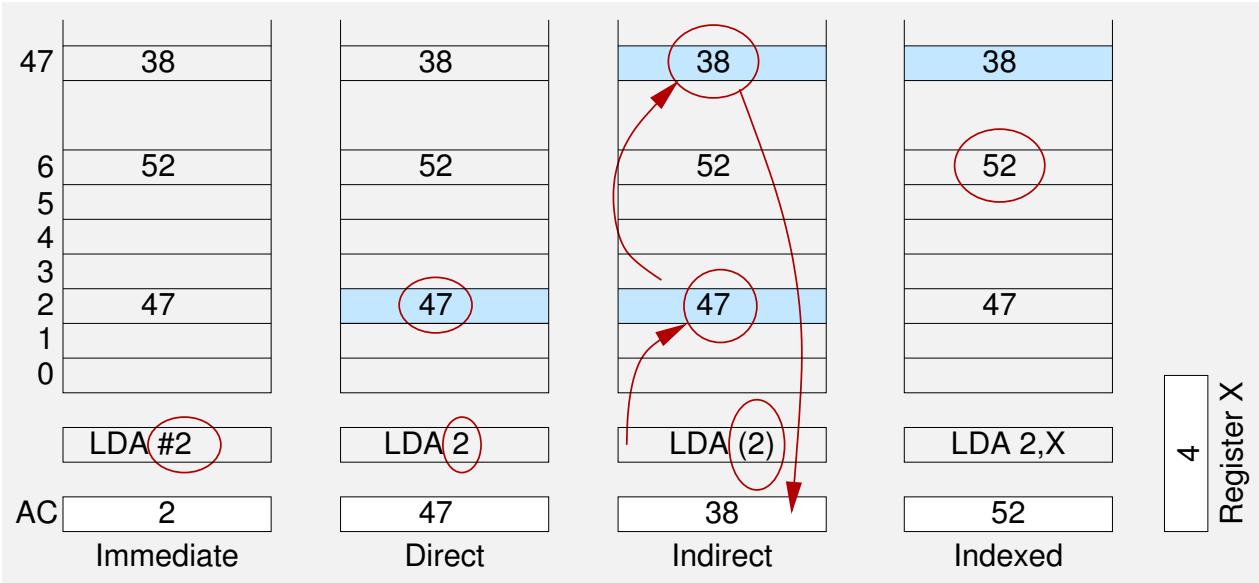

Figure 3.12: Addressing modes: the contents of the AC after LDA immediate, direct, indirect and indexed
The example shown in Figure 3.12 shows LDA (2), compared with LDA 2, LDA #2 and LDA 2,X. The contents at address 2 are 47, so that we look in 47 for the data, 38, which is then loaded into the accumulator.